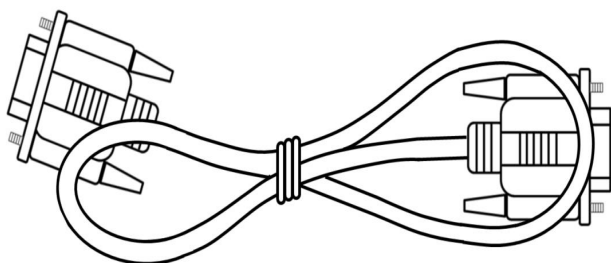

Figure 76
4) If the baud rate is set correctly, but still cannot print, please use the printer cable in the machine box provided by us to connect with the RS232 cable of the printer you purchased, and then connect to our printer to print the data, as shown in Figure 76.